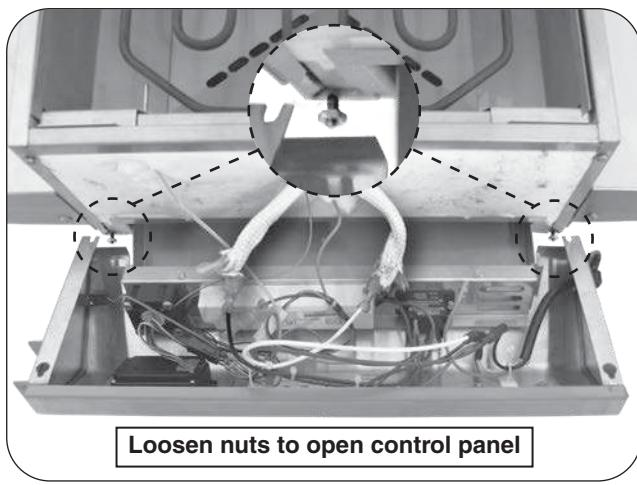

Fig. 22-1 Remove control panel
- 4. Loosen the nuts underneath the control panel with a 11/32" wrench, then lift the panel until it is freed from the screws. Carefully rest the panel on the drip tray. Reference Fig. 22-1.**